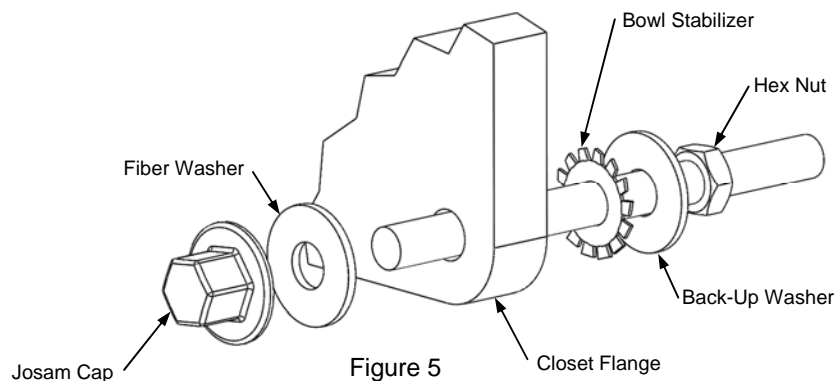

Figure 5
6. To set closet using finished Hardware Group FH, put a hex nut, back-up washer and a bowl stabilizer on each mounting stud. See Figure 5. Adjust with front of back-up washer at finished wall line.
7. Place fixture gasket around fixture outlet and hang closet. Assemble fiber washers and Josam caps to the two studs on the center line of the closet outlet and one other stud and wrench-tighten. Assemble fiber washer and Josam cap to remaining top stud, hand-tighten and take 1/2 turn with the wrench. See Figure 5.